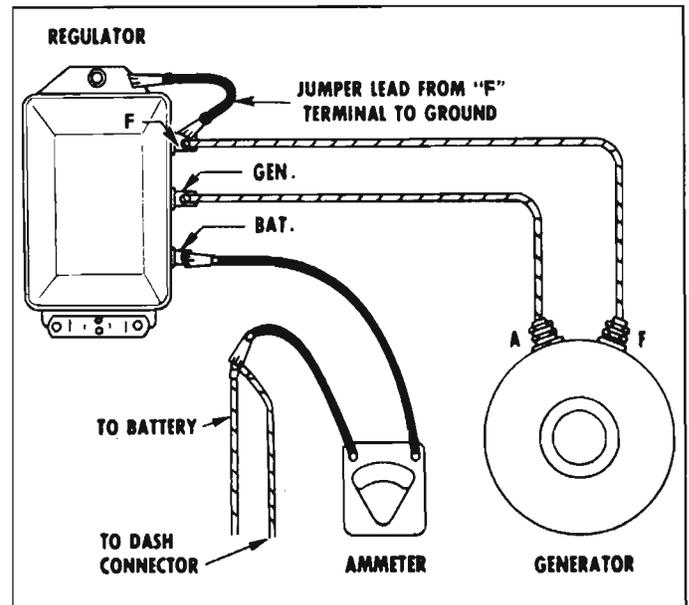

Fig. 8-12—Checking for Oxidized Contact Points
1. Connect an ammeter into the charging circuit (fig. 8-12) and turn on headlights.
3. Ground the "F" terminal of the regulator as shown in Figure 8-12.